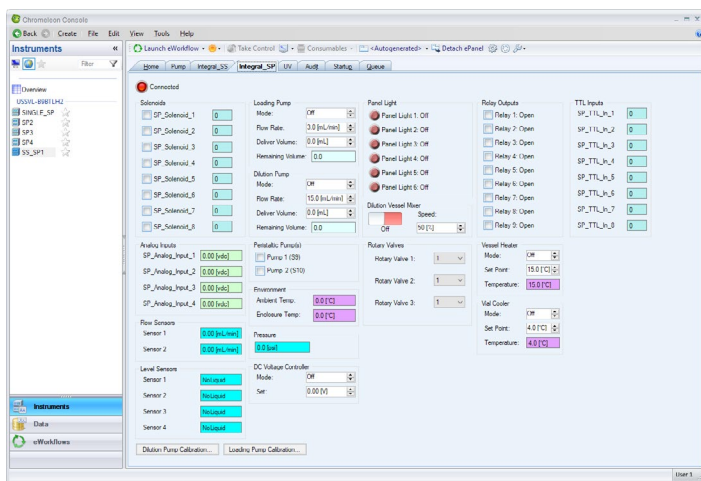

Figure 7. Chromeleon 7 PA software: Sample preparation control
- Direct, manual control from software when desired (Figure 7)